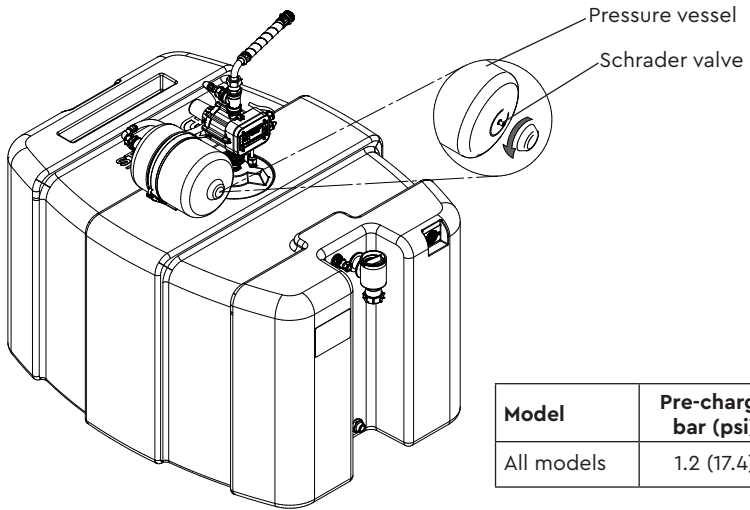

Fig. 20
- Check pre-charge at Schrader valve (Fig. 20) using a tyre pressure gauge.
- Replenish pre-charge by injecting air into the vessel via the Schrader valve using a car or bicycle pump (Fig. 20).